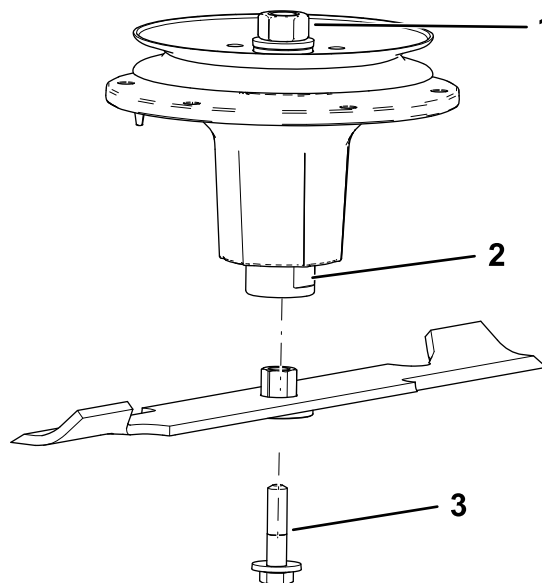

Figure 101
2. Install the bushing/blade assembly into the spindle shaft (Figure 101).